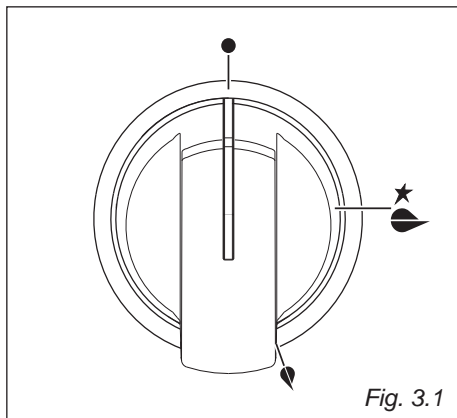
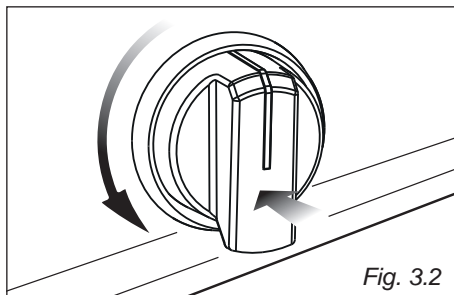

Fig. 3.1
Fig. 3.2
- Unhook the terminal board cover by inserting a screwdriver into the two hooks "A" (fig. 3.1).
- Open the cable gland by unscrewing screw "F" (fig. 3.2), unscrew the terminal screws.
Gas flow to the burners is adjusted by turning the knobs (illustrated in fig. 3.1) which control the safety valves. Turning the knob, so that the indicator line points to the symbols printed on the panel, achieves the following functions:
1. Press in the corresponding knob and turn counter-clockwise (fig. 3.2) to the full flame position marked by the ★🔥 symbol (fig. 3.1); hold the knob in until the flame has been lit. In the case of a mains failure light the burner with a match or lighted taper.